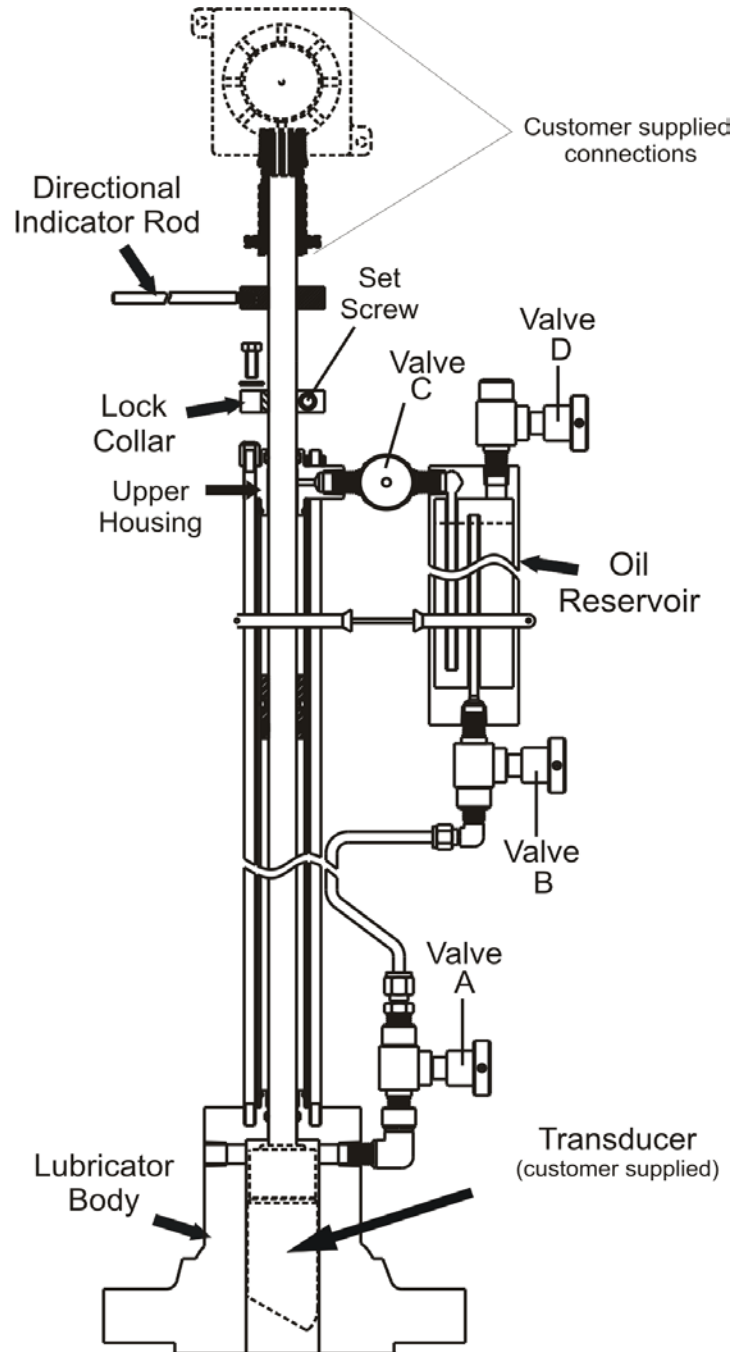

FIGURE 1
2.2.2 Line up the directional indicator rod with the flow entrance of the transducer (see Figure 1).